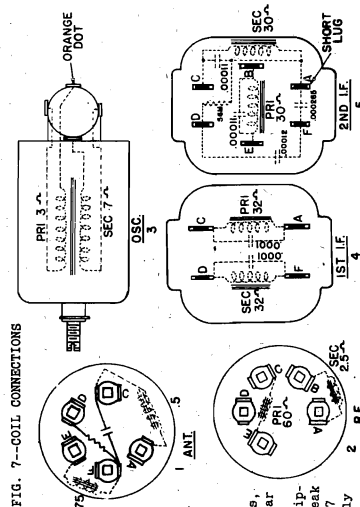

FIG. 7--COIL CONNECTIONS
- Checking Selectivity Curves: The Cathode Ray Oscilloscope should be used to check the shape of the I.F. curve after completing the alignment procedure. Slight readjustments of the I.F. transformers may be necessary to obtain a symmetrical curve. Connect the Cathode Ray Oscilloscope from the point as shown on the schematic circuit diagram or from "P" lug on the second I.F. coil (Fig. 7).